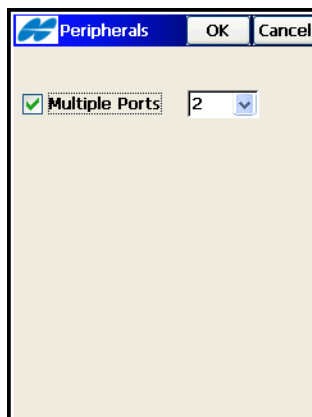

Figure 3-7. Peripherals
- **Peripherals** – if needed, check and enable the *Multiple Ports* option to configure the Base to transmit data from different ports used for peripherals (Figure 3-7).